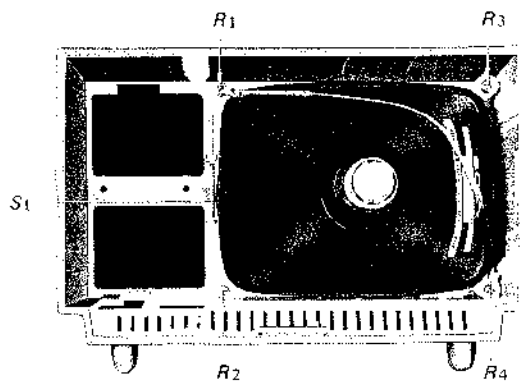

Fig. 2-20
6. Remove the four screws labeled R1-R4 in Fig. 2-20.
7. Loosen a screw labeled S1 in Fig. 2-20.